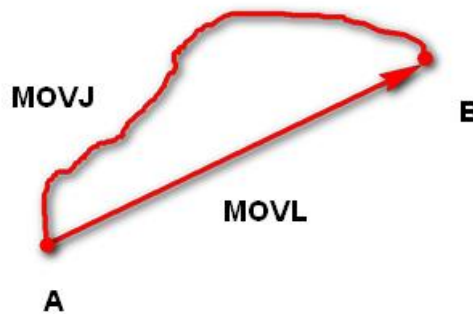

Figure 12.1 MOVJ/JOINT mode
- **MOVJ:** Joint movement. From point A to point B, each joint will run from initial angle to its target angle, regardless of the trajectory, as shown in Figure 12.1.
- **MOVL:** Rectilinear movement. The joints will perform a straight line trajectory from point A to point B, as shown in Figure 12.1.